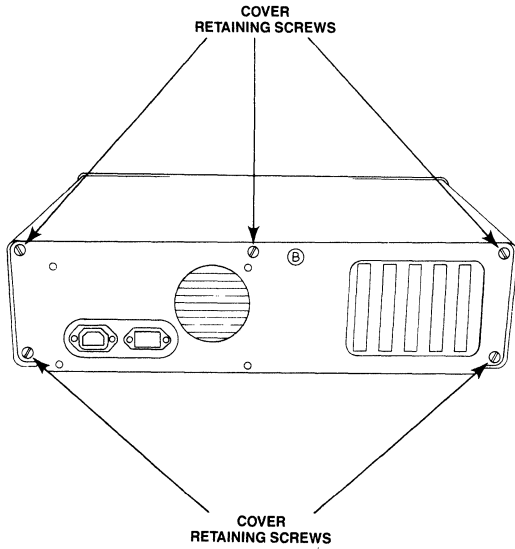

Figure C-2 Removing Cover Screws from the PC
- a. Remove the five screws that secure the cover. The screws are on the back of the PC (see Figure C-2).